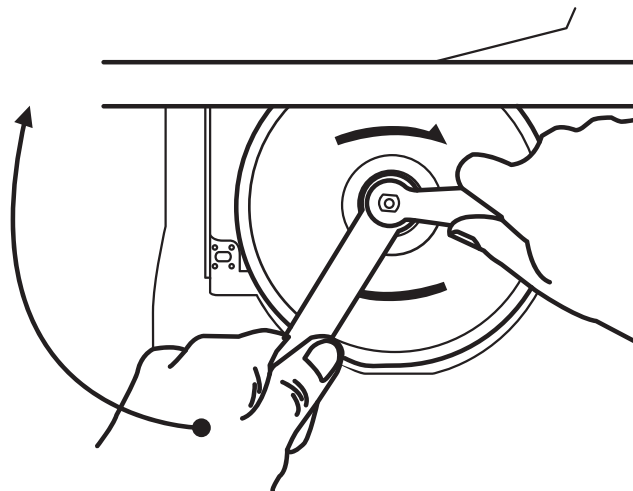

Fig. 8
Tighten the nut (13) with the box spanner (13). Whilst doing this, hold the driveshaft steady with the long slot box spanner (14). (See Fig. 8).